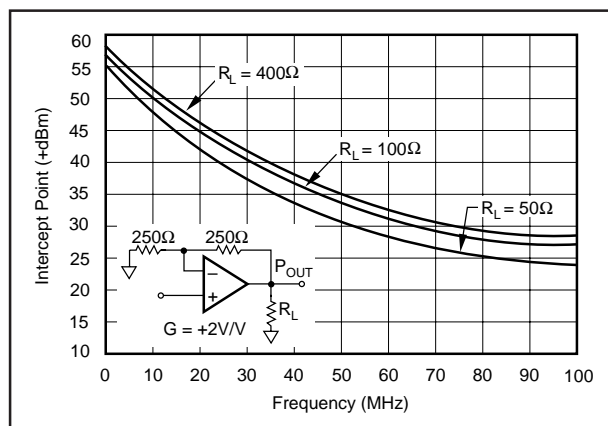

FIGURE 9. Two-Tone Third-Order Intermodulation Intercept vs Frequency.
Two-tone, third-order intermodulation distortion (IM) is an important parameter for many RF amplifier applications. Figure 9 shows the OPA621's two-tone, third-order IM intercept vs frequency. For these measurements, tones were spaced 1MHz apart. This curve is particularly useful for determining the magnitude of the third-order IM products as a function of frequency, load resistance, and gain. For example, assume that the application requires the OPA621 to operate in a gain of +2V/V and drive 2Vp-p (4dBm for each tone) into 50Ω at a frequency of 10MHz. Referring to Figure 9 we find that the intercept point is +47dBm. The magnitude of the third-order IM products can now be easily calculated from the expression: